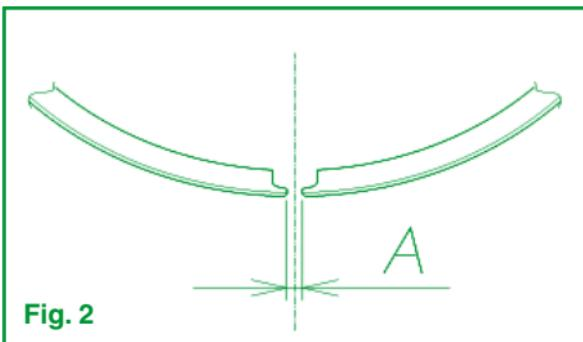

Fig. 2
- c – With a feeler gauge measure the distance between piston ring ends (gap); min. gap: A = 0.15 mm see Fig. 2.